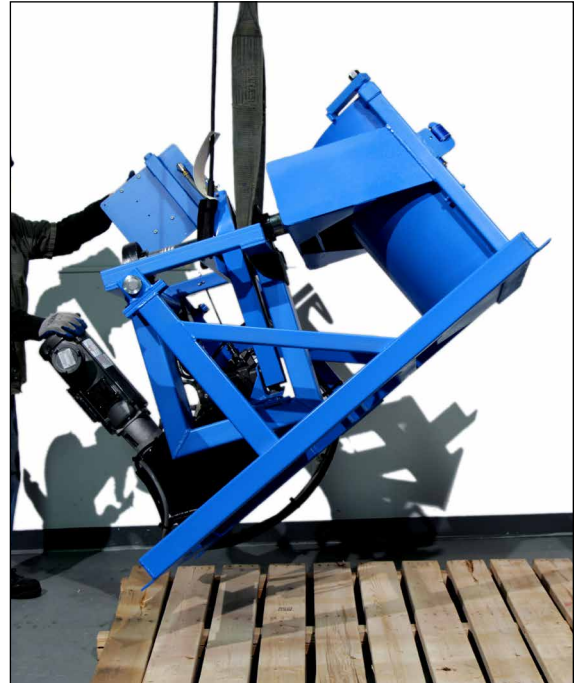

Figure 1: 310-CE Lifting Point
Carefully remove the top and sides of the crate covering the machine so as not to damage painted surfaces, electrical or hydraulic components. Inspect the machine for visible damage. If damage is noted, follow receiving procedure on page 1. Remove the (4) lag screws connecting the machine base to the pallet. Remove machine from pallet by lifting 7.62 cm (3") diameter drum holder shaft. Attach a strap to an overhead crane and raise slowly, as the machine will have a tendency to tilt (see figure 1).